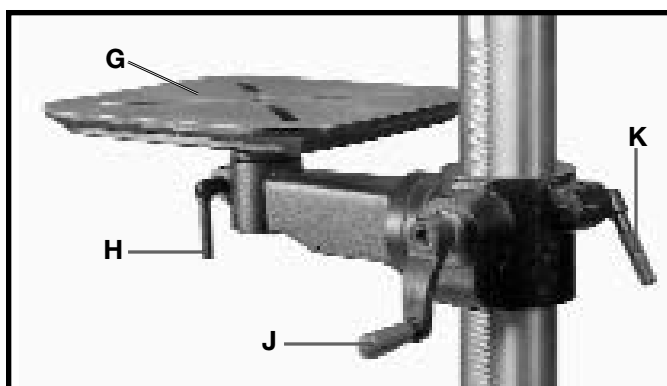

Fig. 19
1. The table (G) Fig. 19, can be raised or lowered on the drill press column by loosening the table clamp handle (K) and turning the table raising and lowering handle (J). After the table is at the desired height, tighten handle (K).
2. The table (G) Fig. 19, can be rotated 360 degrees on the table bracket by loosening lock handle (H).